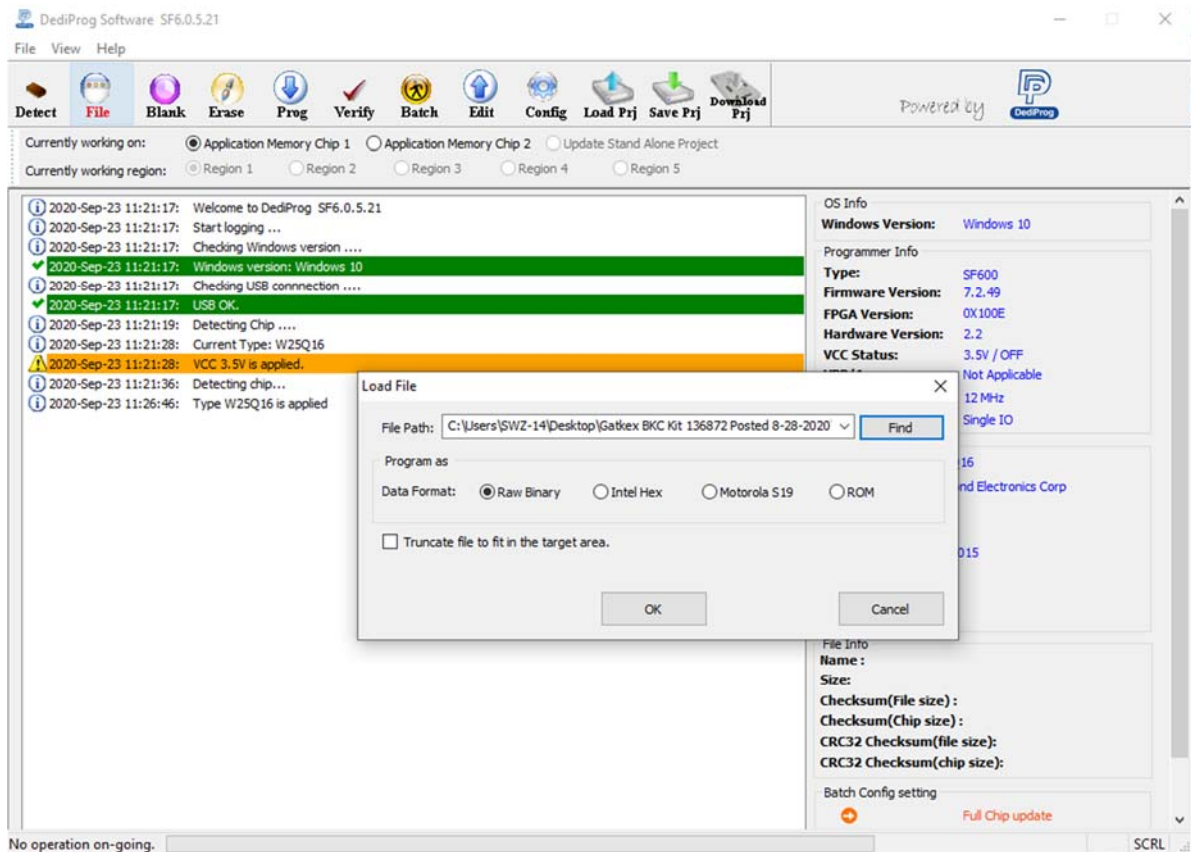

Figure 11: Load Intel USB4 Evaluation Dock bin file
- Step 6: File → load Goshen Ridge FW from BKC file bin file (See Figure 11), Select OK